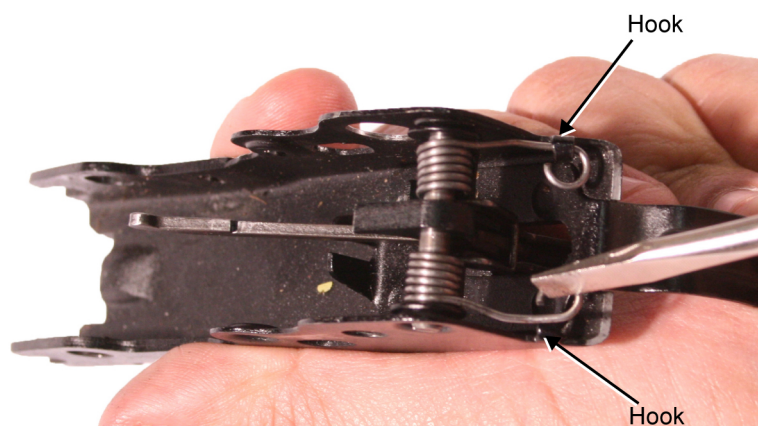

Figure 7. Unhooking the Legs of the Trigger Spring.
7. Use a flathead screwdriver to remove the legs of the trigger spring from the hooks on the trigger housing. Refer to Figure 7.